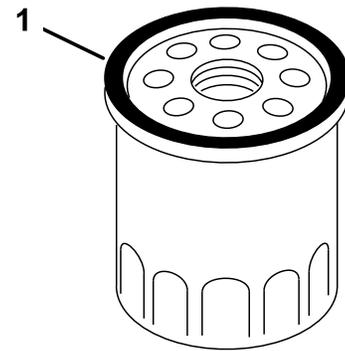

Figure 22
4. Use your finger to coat the gasket on the new filter with oil (Figure 22).